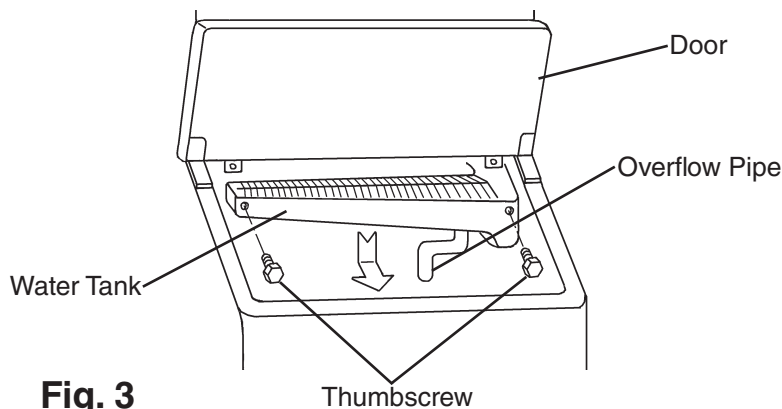

Fig. 3
- 4) Disconnect the overflow pipe, then remove the 2 water tank thumbscrews. Remove the water tank. See Fig. 3.